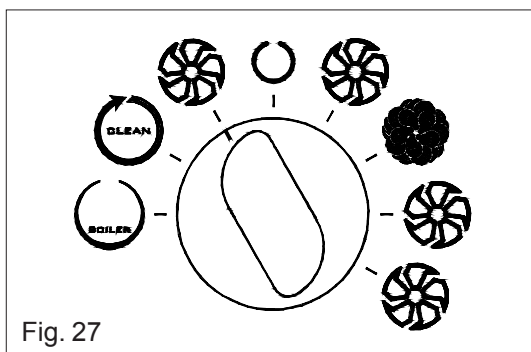

Fig. 27
- Turn the knob to the position shown in Fig. 27.